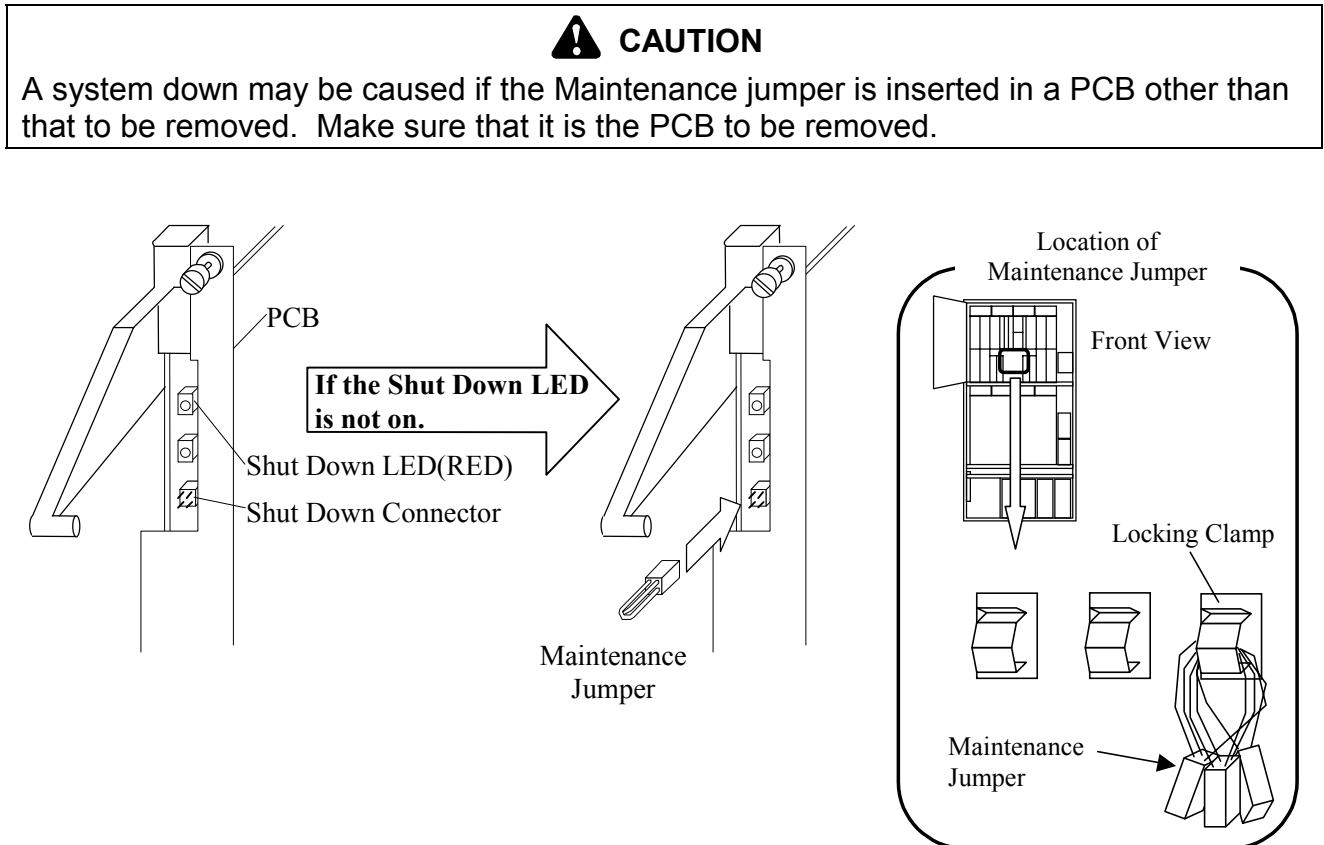

Fig. 4.3.2-1 Shut Down LED
- a. Confirm that Shut Down LED is on (Fig. 4.3.2-1). If the LED is not on, connect the Maintenance Jumper to the Shut Down Connector.
- Remove the bracket and cable clamp referring to Fig 4.3.2-2.
- Disconnect the optical fibre cables referring to Fig 4.3.2-3.